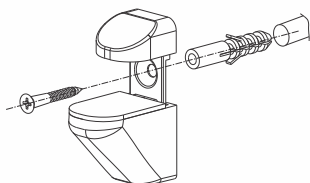

Fig. 3
6. Fix it on the wall with screws and wall plugs provided (Refer Fig.3).